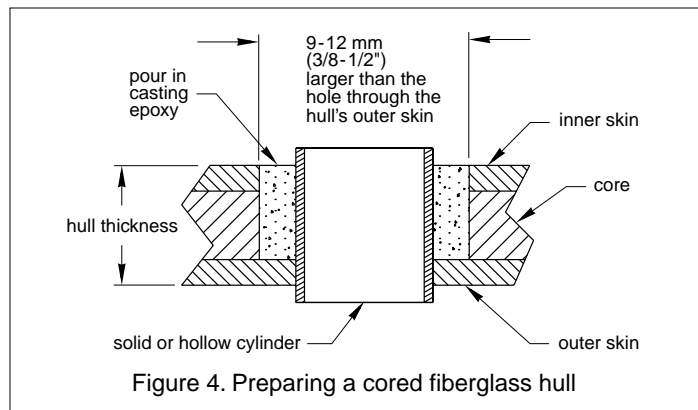

Figure 4. Preparing a cored fiberglass hull
2. Using the 51 mm or 2" hole saw, cut the hole from outside the hull through the *outer skin* only (see Figure 4).